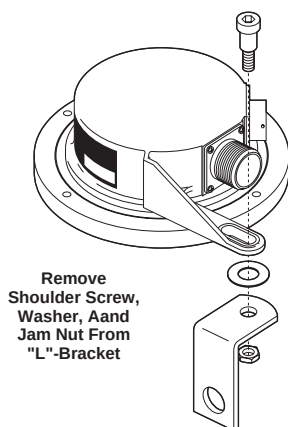

Figure 11-2. Remove Sensor Arm
3. Remove the shoulder screw, washer, and jam nut from the sensor arm (Figure 11-2).